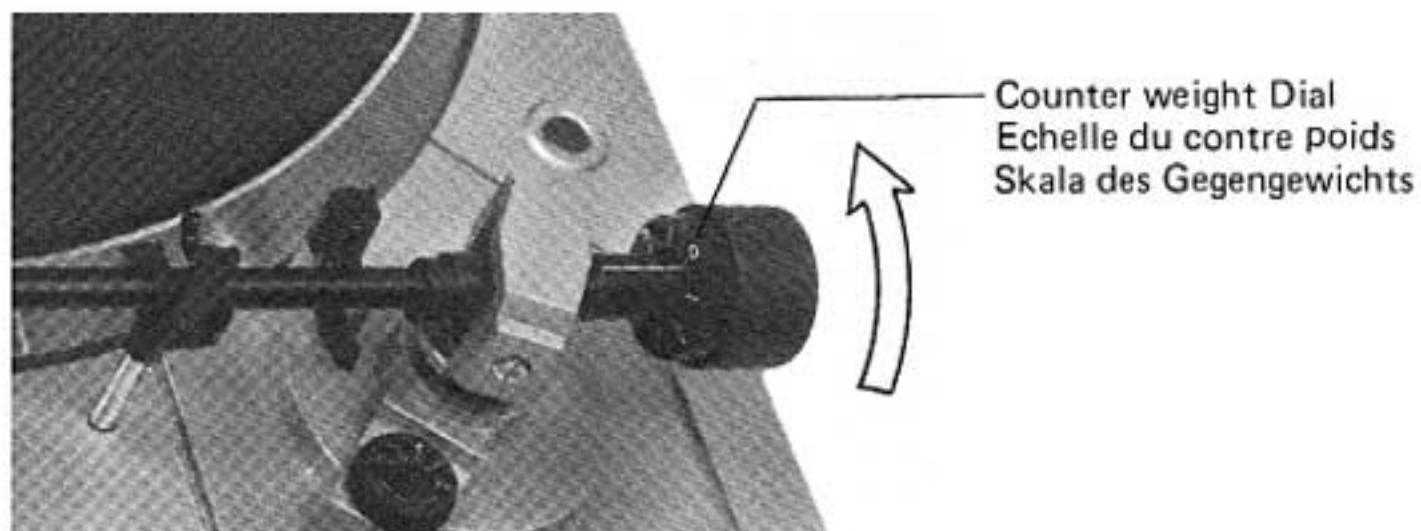

Fig. 3
- Now, without moving the counterweight, set the counterweight dial so taht the "0" mark lines up with the white line marked on the tonearm (Figure 3).